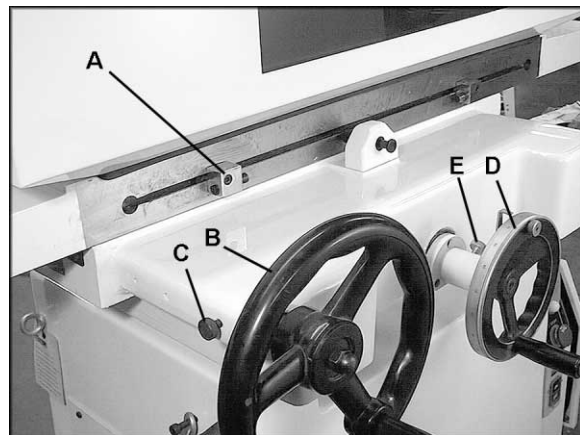

Figure 15
1. Loosen the socket head cap screws in the limit blocks (A, Figure 15), and slide the limit blocks to the desired position. Retighten the socket head cap screws.
2. Move the table using the handwheel (B, Figure 15) and lock the table in position by tightening the knurled knob (C, Figure 15).
The crossfeed handwheel (D, Figure 15) has a scale for precision setting. The crossfeed movement of the table can be locked by tightening the knurled knob on the column (E, Figure 15).